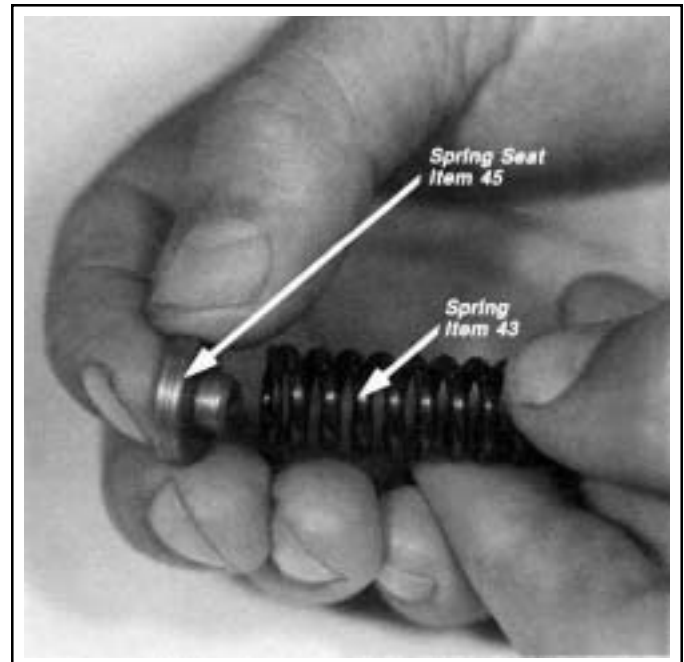

FIGURE 41 - INSTALLING PRESSURE RELIEF SPRING SEAT
3. Install the pressure relief valve piston (46), spring seat (45), and spring (43) in the valve body. *Figure 41.*